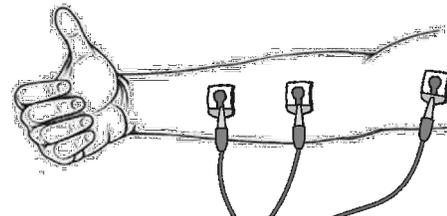

Figure 3
3. Attach three electrode tabs to on of your arms, as shown in Figure 3. Two tabs should be placed on the ventral forearm, 5 cm and 10 cm from the medial epicondyle along an imaginary line connecting the epicondyle and the middle finger.